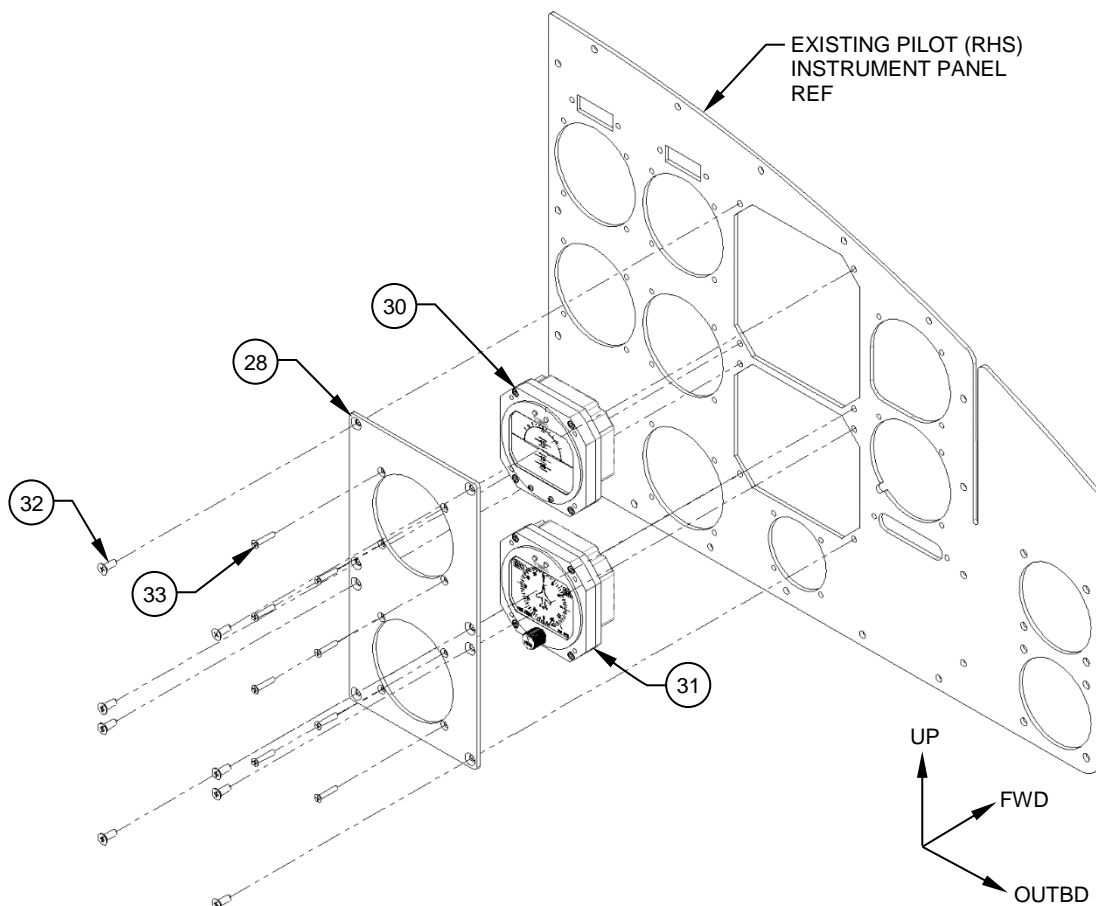

Figure 7
11. Install the Attitude Indicator (Item 30) and Heading Indicator (Item 31) into the Adaptor, Detail (Item 28) on both pilot and co-pilot instrument panels. Reference Figure 7. If installing on an aircraft with a serial number earlier than 30596 install the Attitude Indicator (Item 30) in the Adaptor, Detail (Item 29 (not shown)) and the Heading Indicator (Item 31) directly into the instrument panel in the existing standard three-inch hole.